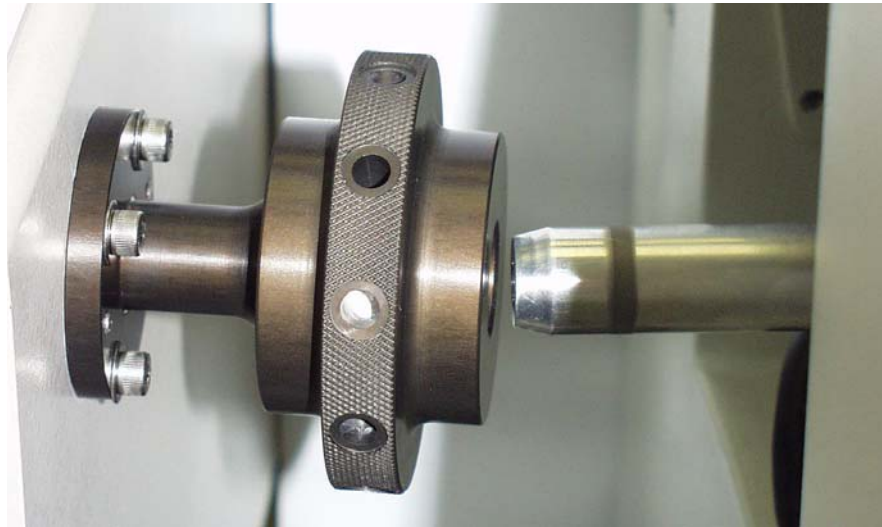

Figure 50 - AutoProbe Disconnected from the MS
5. Slide the AutoProbe away from the MS while maintaining the MS and AutoProbe parallel to each other (Figure 50).